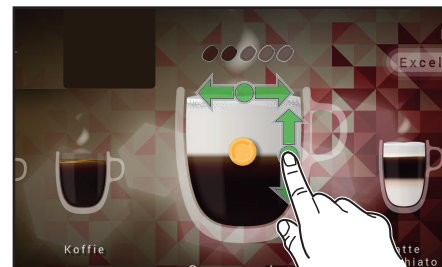

Fig. 4.6 - "Make your own" - strength > ratio
- **DRINK STRENGTH** - move the puk, which is located in the middle of the cup, to the left or to the right (coffee beans are highlighted, which indicate the strength of the drink) (fig. 4.6)
- **RATIO OF INGREDIENTS** (applicable for mixed drinks) - move the puk up or down to adjust the portions of ingredients (fig. 4.6).